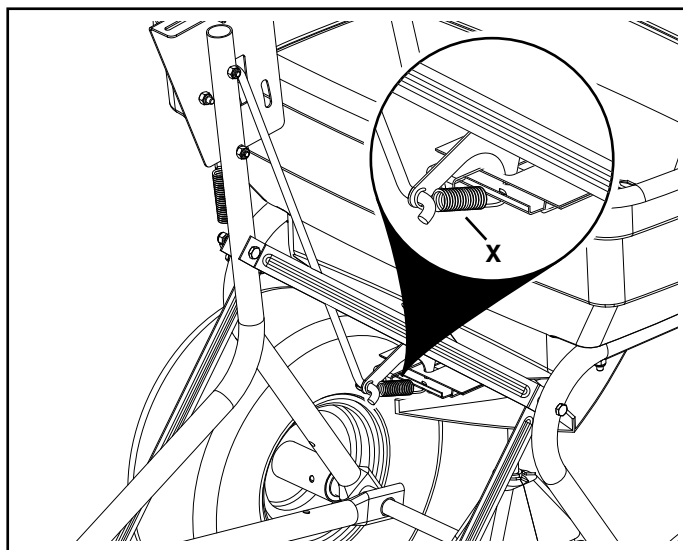

FIGURE 15
Slip the small spring (X) onto the end flow control rod and then attach it to the pattern plate. See figure 15.